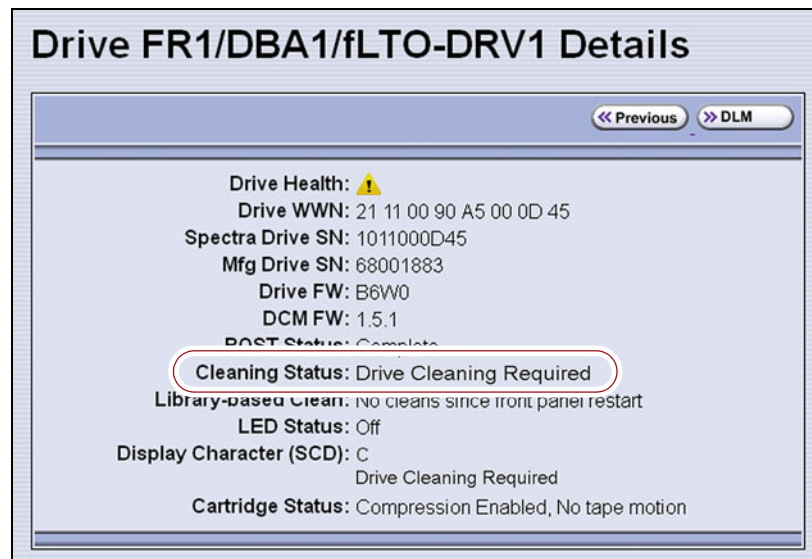

Figure 302 The Cleaning Status indicates that cleaning is required.
Overview Whenever a tape is loaded or unloaded, the read/write heads are physically cleaned by a brush located within the drive. However, after reading and writing a large amount of data (the exact amount varies by drive type and generation) or if read or write errors occur, the drive requests to be cleaned with a cleaning cartridge. The request is made by sending a Tape Alert message to the host, and displaying a **C** on the SCD for an LTO drive or **CLEAN*** on the MCD for a TS11xx technology drive. The notification is also posted to the library's Drive Details screen (Figure 302 on page 469) and the DLM drive health icon for the drive changes to yellow (see Using the Drive Health Icons on page 334 for additional information).
- The Drive Details screen indicates that the drive needs cleaning or displays a **C** on the SCD for an LTO drive or **CLEAN*** on the MCD for a TS11xx technology drive (see Figure 302 on page 469).